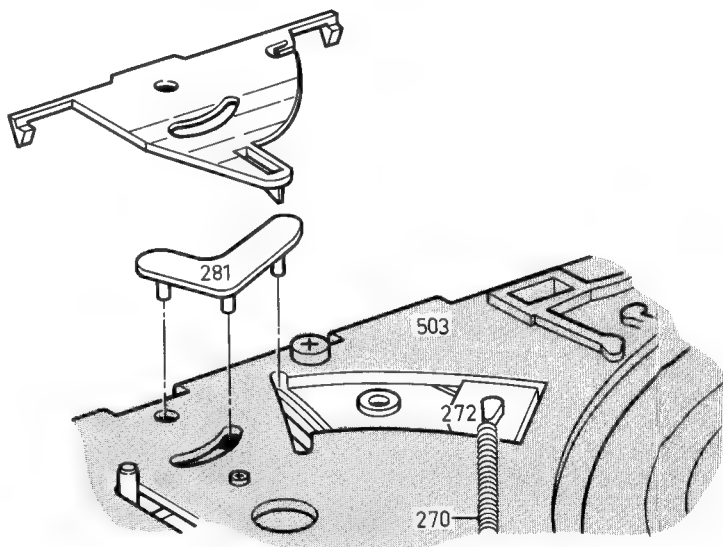

Fig. 1-24
1.26 Blocking bracket pos. 281
- Unlock the cover pos. 282, at the right-hand and left-hand side (Fig. 1-24).
- Demount blocking bracket pos. 281 (Fig. 1-24).